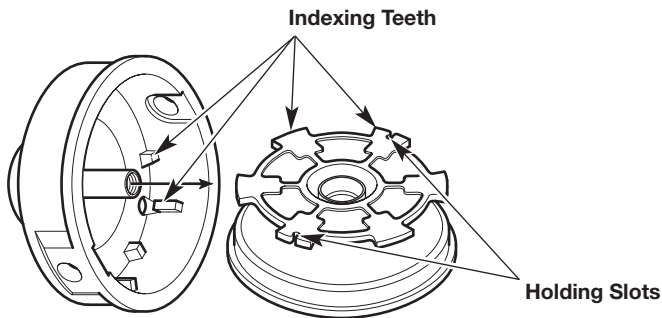

Fig. 28
6. Check the indexing teeth and holding slots for wear (Fig. 28). If necessary, remove burrs or replace the inner reel and outer spool.